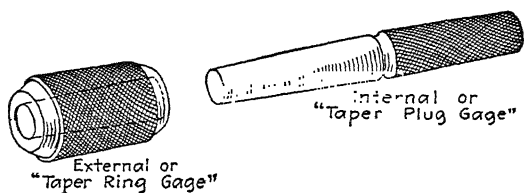

FIG. 156.
**167. Fitting a Taper to a Gauge.**—It is difficult to accurately measure the diameters of a taper with a spring caliper or a micrometer. A taper should be finally fitted to a gauge (Fig. 156), or to the spindle or sleeve for which it is intended. To
Standard taper gauges, external and internal (Fig. 156), are practically indispensable where accurate taper work is done.